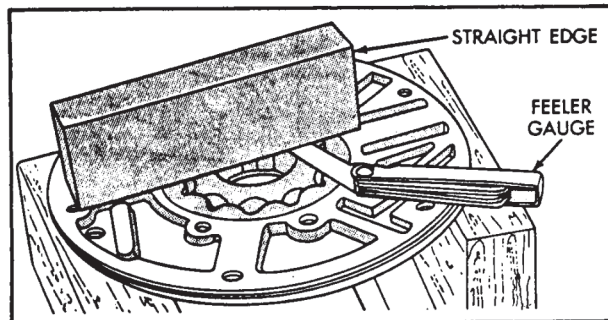

Figure 48
6. Install both pump gears into the pump housing and measure clearance with a feeler gauge and straight edge, as shown in Figure 48. Clearance should be .0015"-.0035".